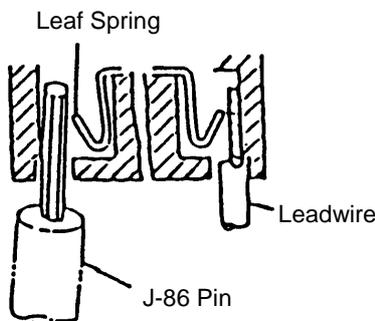

Fig. 8
The two leadwires from the Motor (30) (35) (one red, one black) can be disconnected from the forward/reverse control section of the Switch by inserting a J-86 Pin (Special Repair Tool, Code No.970-828) into the holes provided beside each of the leadwires, as illustrated in Fig. 8, and bending the switch leaf springs as necessary so that the leadwires can be smoothly withdrawn.